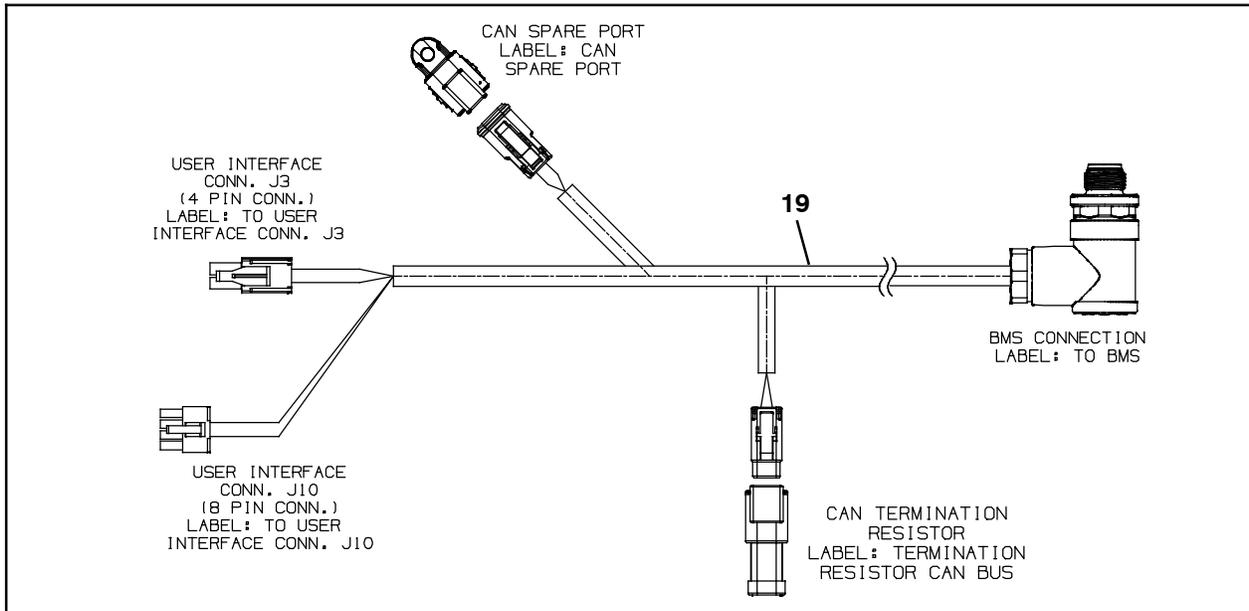

FIG. 24
15. Connect the signals UI to BMS electrical harness (19) to the communication board (13) J3 and J10 terminals. (Fig. 24/Fig. 25)